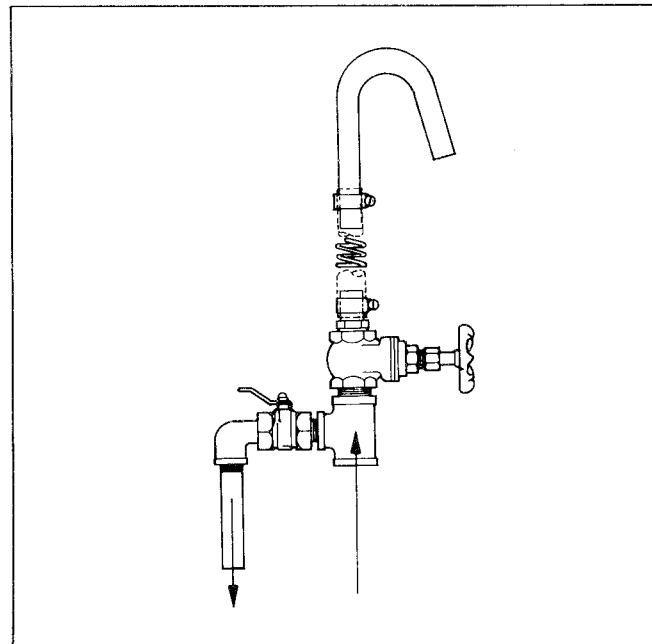

Figure 7. Type B2GV System
**c. Type B2GV By-Pass (Figure 7):** Same as B2 except gate valve substituted for pinch valve.